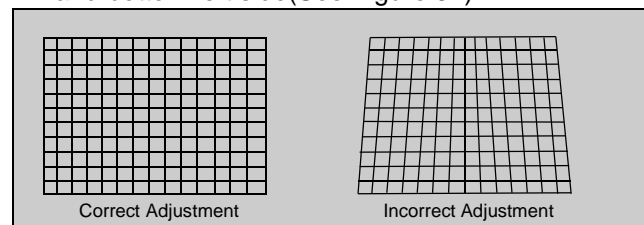

Figure 32. Trapezoid Adjustment
3. Adjust DAC EWTRA (trapezoid) by pressing VOL right-left to correct image, less than 30mm on top and bottom left side(See Figure 32).